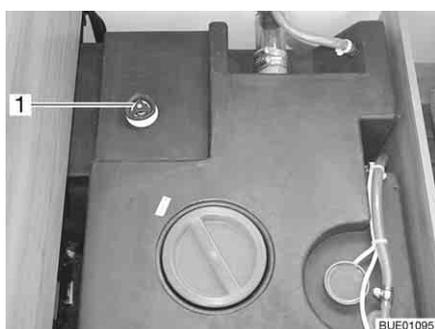

Fig. 143 Water tank with handle
- Turn the handle (Fig. 143,1) on the water tank in a clockwise direction as far as it will go.
- Turn the handle (Fig. 143,1) on the water tank in an anticlockwise direction as far as it will go. Excess water will drain away leaving 50 litres in the tank.